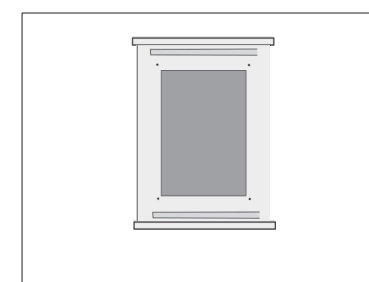

Figure 8
Hold the back frame of your mirror to the wall fitting of the insert open hole area. This is where a friend will come in handy. While you are holding the frame in place against a wall, confirm that the frame is square and level. Locate the (6) mounting holes in the frame. They are 16" apart and should be centered on the two studs in your wall. While holding the frame in place, install the (6) supplied screws into the studs. With the screws installed the frame is now self supporting. If you did not hit a stud you may need to adjust your mirror right or left as necessary. Be sure to anchor your mirror frame to the studs. The mirrors are heavy and if only screwed into drywall over time, they **WILL** fail, possibly causing damage and injury. So make sure the frame is screwed to the studs. See Figures 8